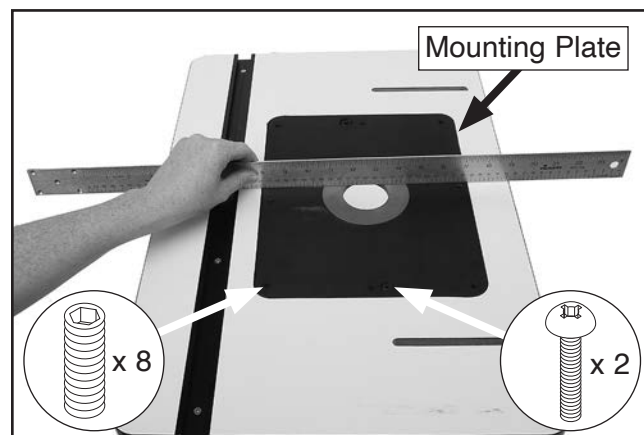

Figure 42. Example of using a straightedge to align mounting plate with table surface.
5. Adjust set screws (see **Figure 42**) in mounting plate as necessary so that straightedge lies flat on table surface at all positions of pattern.